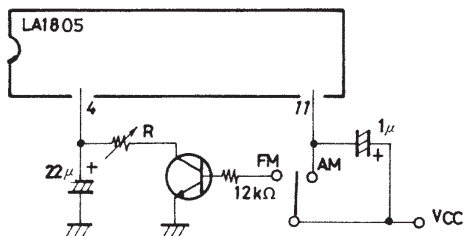
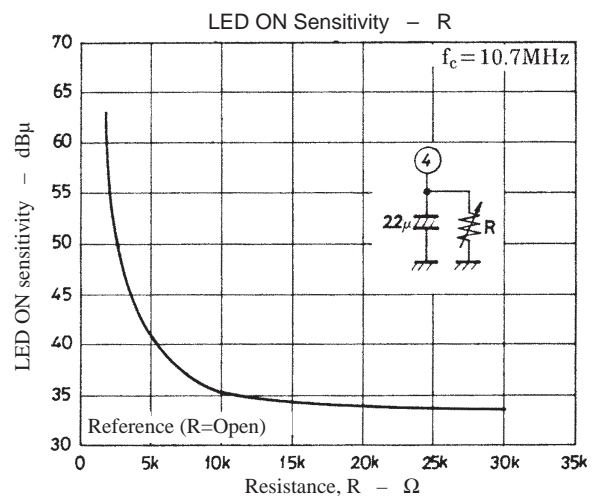

Figure 11 Method to Change the LED ON Sensitivity at the FM Mode
Figure 12
6. The following method can be used to change the LED ON sensitivity at the FM mode (Figure 11). The data on the LED ON sensitivity setting resistance and LED ON sensitivity is shown in Figure 12.